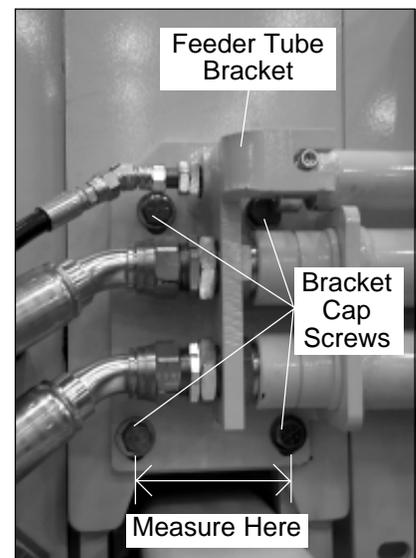

Figure 2 — Measuring The Cap Screw Distance
5. For D2000A or B, D3000A or B, and D4000A or B units: if the digger is mounted on the right side of the boom (determined by looking from the boom tip toward the turntable), measure the distance between the center of the two bottom cap screw heads (refer to Figure 2). This measurement is required to order the correct replacement kit. No measurement is required for the DT80, units with the digger mounted on the left side of the boom, or units with a boom tip winch.